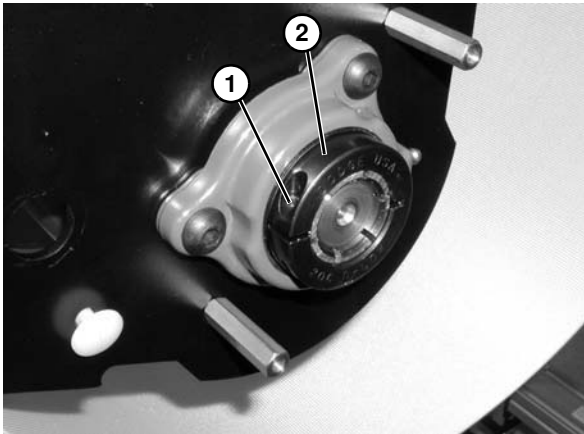

Figure 173
9. Loosen clamp screw (Figure 173, item 1) and remove bearing collar (Figure 173, item 2).